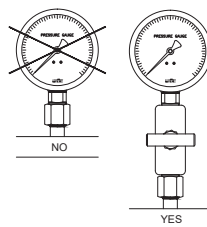

Figure 8
- 9) Install valve when the pressure gauge is first installed so that it is easily dismantled. (Figure 8)